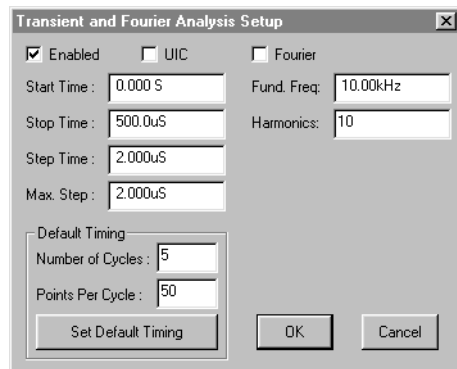
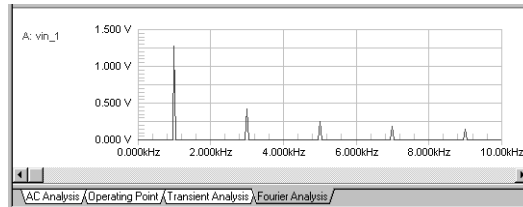

Figure 6.21. Use this dialog box to set up a Fourier Analysis.
Figure 6.22. A Fourier Analysis waveform.
- 2 Click the **Transient/Fourier** button to display the dialog box pictured in Figure 6.21.
The waveform in Figure 6.22 was generated by simulating the Bandpass.ckt circuit using the values shown in Figure 6.21. This analysis shows the frequency spectrum of the square wave from the signal generator. The first peak in the